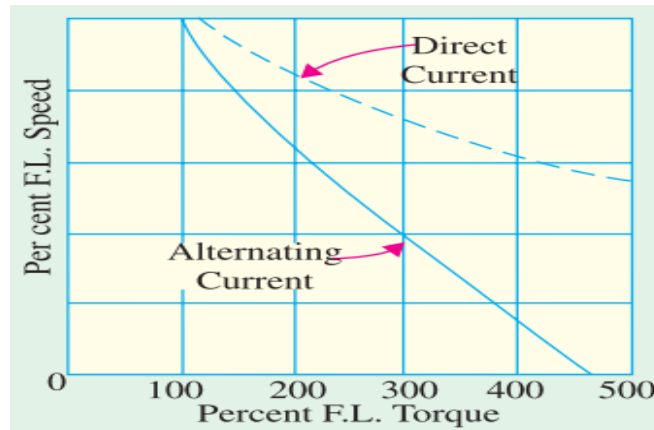

Figure 3
- Fig. 3 shows typical torque characteristics of a universal motor both for d.c. and a.c. supply.